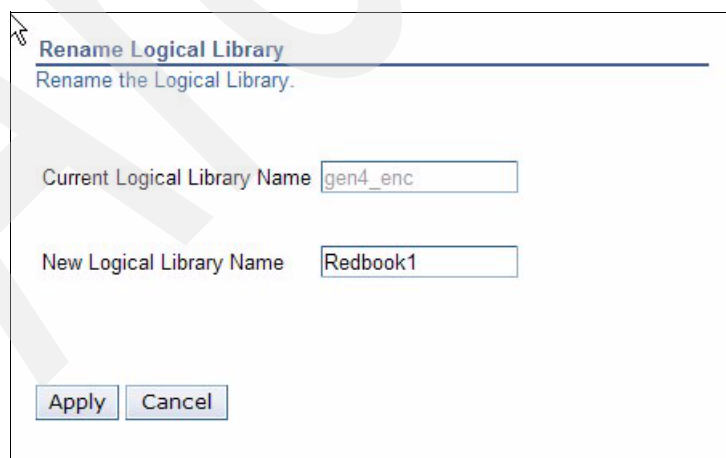

Figure 2-37 Rename logical library
12. After setting a new configuration, the new logical libraries are simply named using numbers. You can change this to more meaningful names: From the Manage Logical Libraries panel (Figure 2-29 on page 51), select the library to be renamed and click **rename**. On the next panel (Figure 2-37) enter a new logical library name.